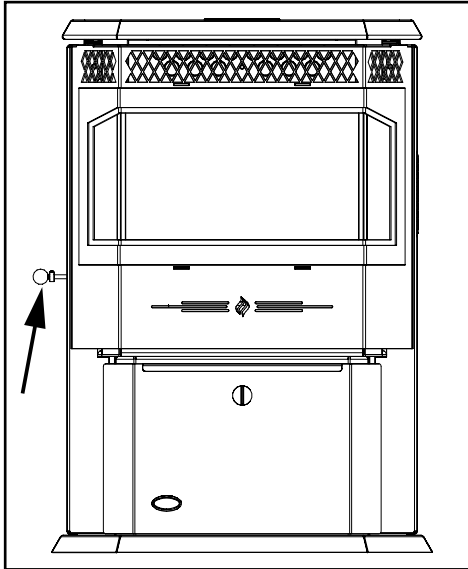

Figure 7: Slider / Damper Knob.
**A Qualified Service Technician or Installer must set the Slider Damper.** This is used to regulate the airflow through the pellet stove. The slider damper knob is located on the left cab side (see Figure 7).